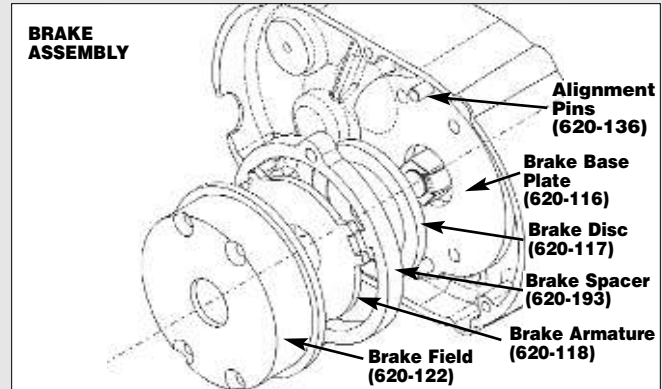

Figure 8B
- Refer to Figure 8B and disassemble the brake. Depress and hold the field assembly (620-122) while removing the four brake screws (620-124). The field assembly is under spring pressure and will spring-out if not held. During disassembly, note there is a small leaf spring (620-121) on the brake driver (620-119) and this will spring-out when the brake disc (620-117) is removed. Examine the base plate (620-116), hex driver (620-119), brake disc (620-117) and armature (620-118) for excessive wear, scoring or warpage. Make sure the brake disc is not glazed, the coil firmly fixed in the field (620-122) and the brake spring (620-123) is not damaged. Worn, scored, warped, glazed or damaged parts should be replaced before proceeding.